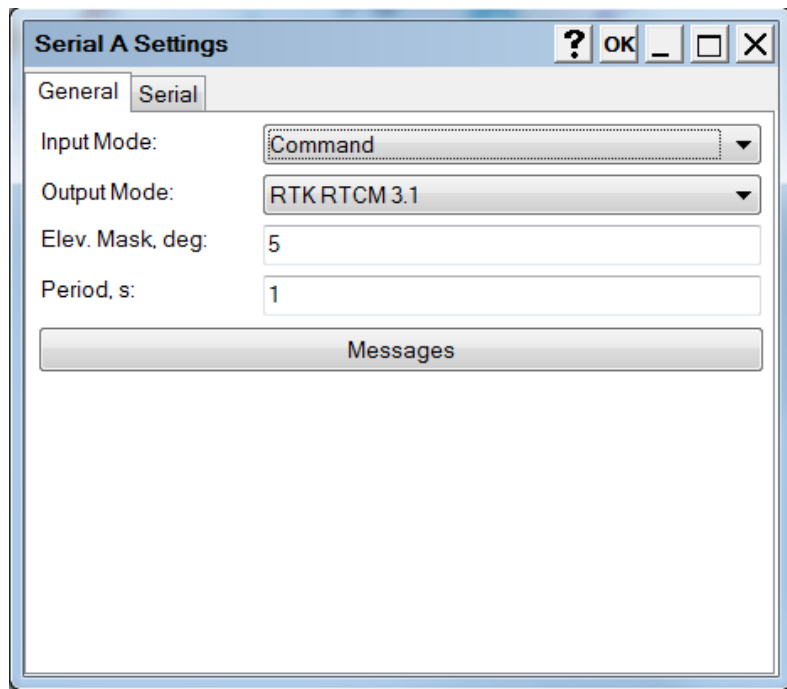

Figure 33: TRU – Serial Port Settings
3. Double-click the appropriate Serial Port name (Figure 33 on page 31). The **Settings** screen for that port appears.
4. In the **Settings** screen, select the following (Figure 33):